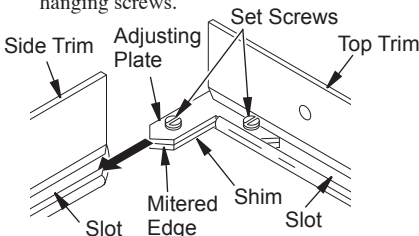

Figure 6 - Assembling Trim
3. Align shim under adjusting plate as shown in Figure 6.
4. Slide one end of adjusting plate/shim in slot on mitered edge of top trim (see Figure 6).
5. Slide other end of adjusting plate/shim in slot on mitered edge of side trim (see Figure 6).